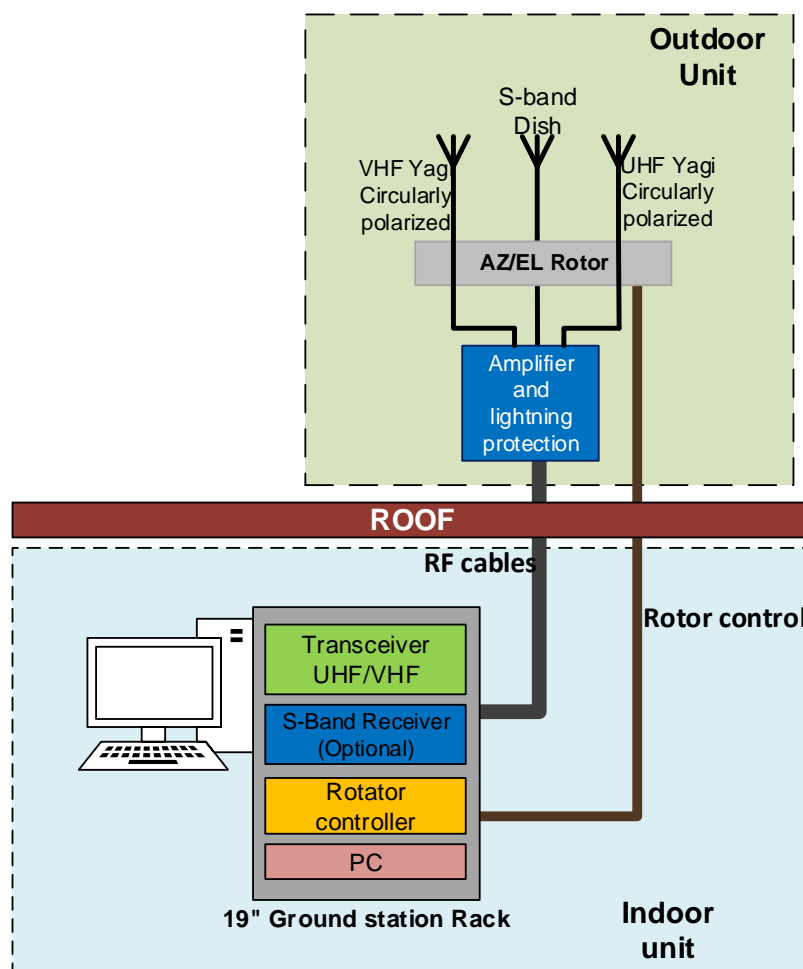
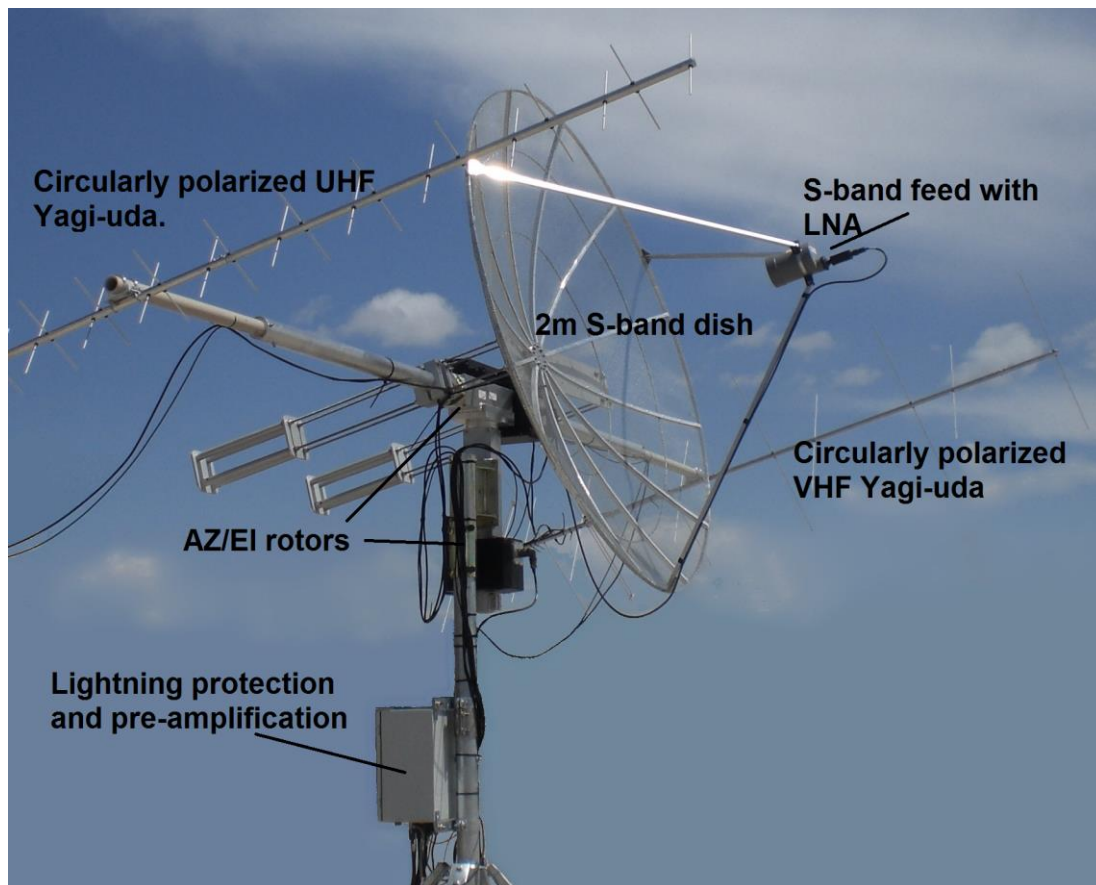

Figure 1: ISIS GS block diagram
Figure 2: VHF and UHF antennas combined with the optional 2m S-band dish
- UHF System noise figure: 2 dB
The ISIS Ground Station is designed to communicate with satellites in LEO using VHF and UHF frequency bands (S-band reception is optional). Figure 1 below shows the main components that make the complete product. They can be divided into two main groups according to the location: an outdoor part, comprising antenna and rotators and an indoor part housing most of the electronic systems. The antennas are shown in Figure 2, where the circularly polarized VHF and UHF Yagi-uda antennas along with the 2m S-band dish are assembled on a roof top.